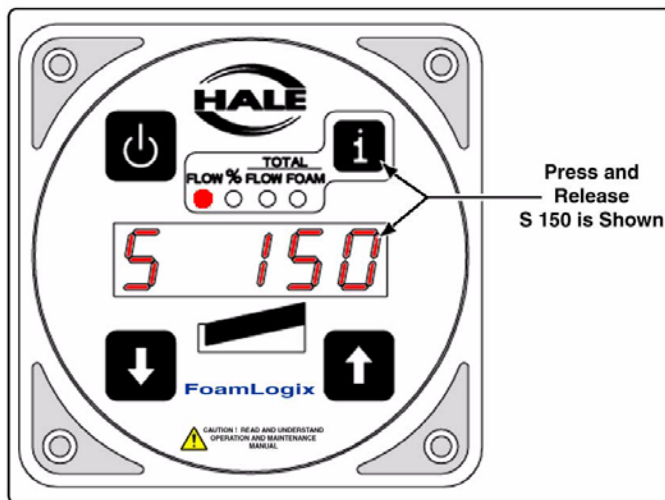

Figure 4-7: Simulated Flow Calibration
1. Press the **i** button. The default simulated flow rate is shown. (See Figure 4-7: "Simulated Flow Calibration.")